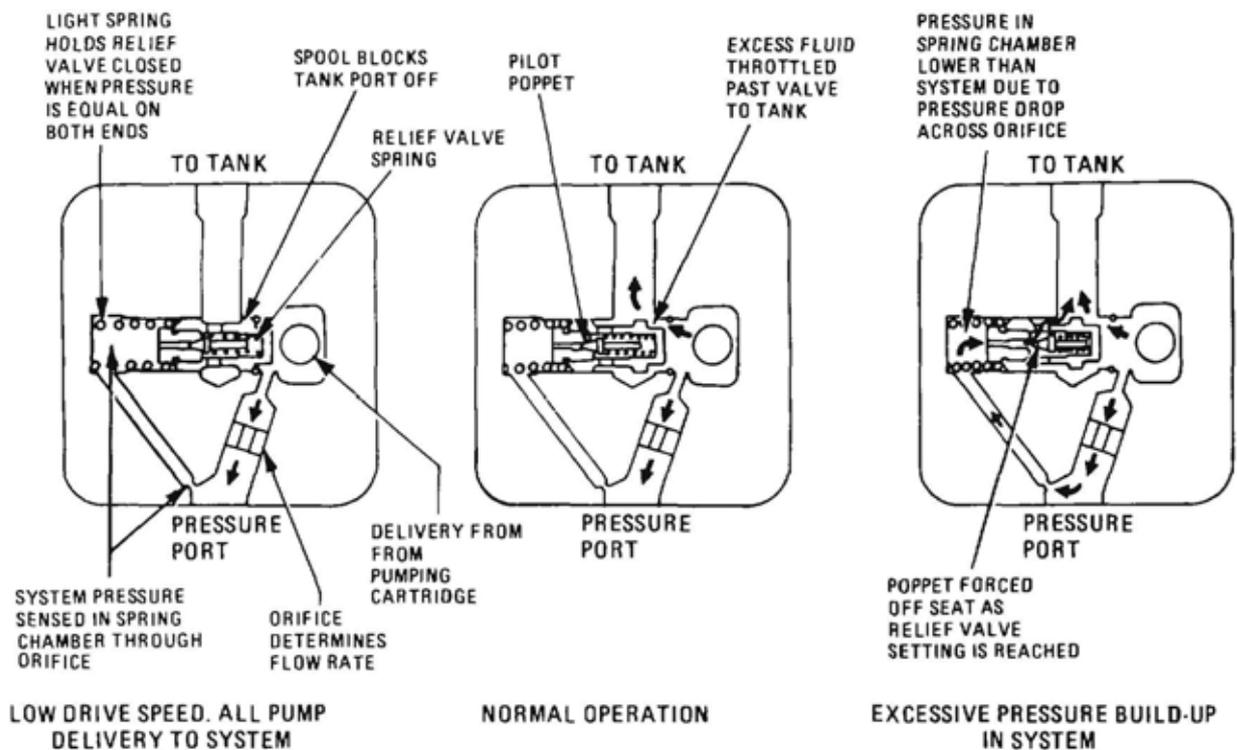

Figure 76 Operation of Integral Flow Control Valve
**124.** There are two inlet and two outlet ports located at 180 degree intervals. This balances out hydraulic forces within the pump, eliminating radial loads on the shaft bearings. The pressure plate is used to seal the chambers; this is held against the cartridge by a light spring until hydraulic pressure is built up. The hydraulic pressure takes over from the light spring and holds the pressure plate against the cartridge. An integral flow control valve is incorporated in the pump to control delivery volume and pressure (Figure 76). An orifice installed in the cover outlet port limits the maximum flow of the oil from the pump to the gear. When pressure in the system builds up, a pilot operated relief valve, located within the flow control valve, diverts excess fluid to the reservoir, thus limiting the pressure to a maximum of 12 066 kPa (1 750 psi).